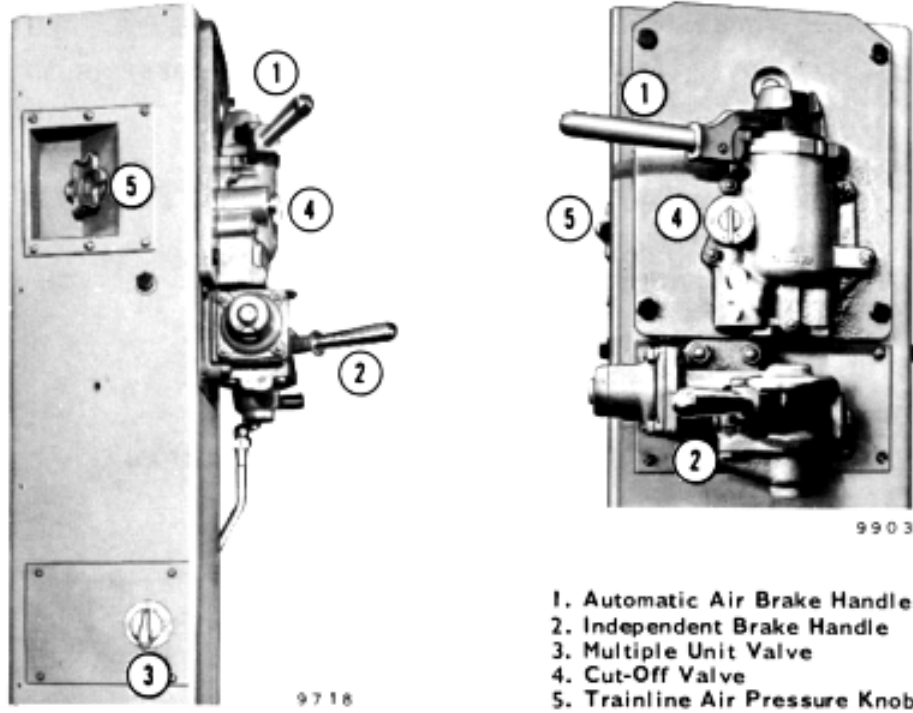

Fig. 2-10 - 26L Air Brake Equipment
**AIR BRAKE EQUIPMENT, FIG. 2-10**
The 26L air brake control equipment is located on a pedestal to the left of the controller. As shown in Fig. 2-10, this equipment consists of an
The multiple unit (MU-2) valve is located on the left hand side of the air brake pedestal, as shown in Fig. 2-10. Its purpose is to pilot the FI selector valve which is a device that enables the air brake equipment of one locomotive unit to be controlled by that of another unit.
The,trainline air pressure adjusting knob is located behind the automatic brake valve at the upper portion of the brake pedestal. It is shown in Fig. 2-10.